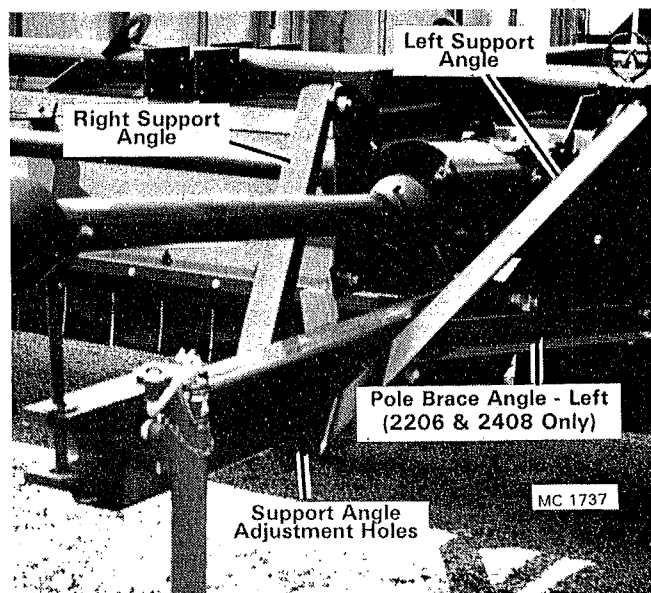

Figure 12
Shredder can be leveled by moving the pole support angles forward or backward in the support angle adjustment holes on the lower sides of the pole, see Figure 12. Seven (7) holes are provided for adjustment.